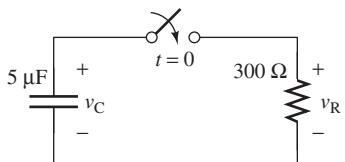

FIGURE P5.7 Circuit for Problem 5.7.
- 5.7** (A) Find an expression for the power supplied by the capacitor in Figure P5.7, as a function of time. $v_C(0) = 5$ V. (The switch closes at $t = 0$.)